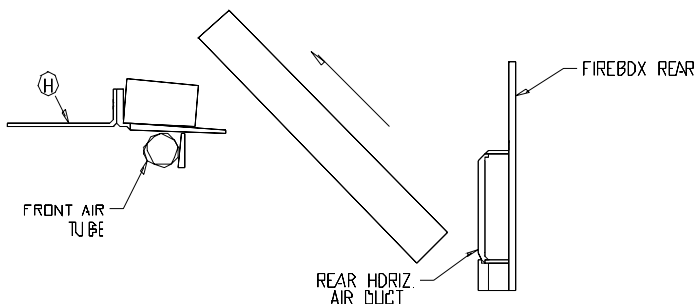
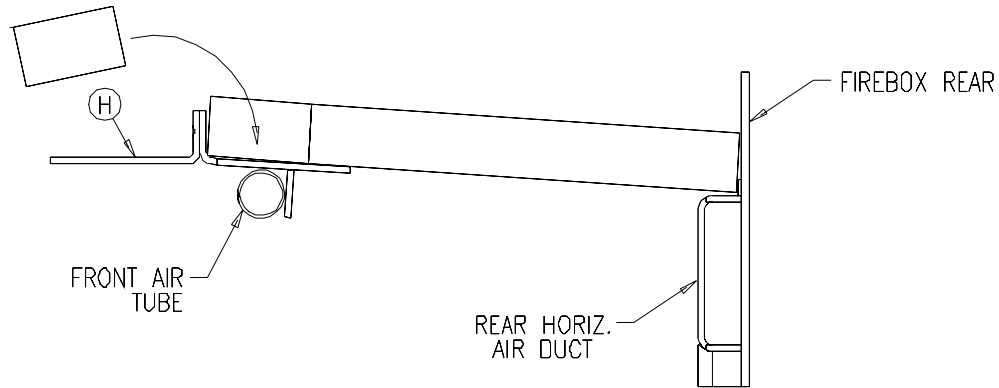

Figure 4.1c
Figure 4.1e
- Starting with sliding the bricks under the baffle boards, install the four full bricks (1.25" x 4.50" x 9.00") by positioning the brick(s) under the baffle support assembly (H). Lift the front of the brick over the support and move it forward, then lift the back of the brick up and onto the rear horizontal air duct (see figures 4.1c and 4.1d). The front of the bricks should then rest on the back of the support assembly (see fig 4.1e). Install the smaller center brick (1.25" x 1.60" x 9.00") last using the same procedure.